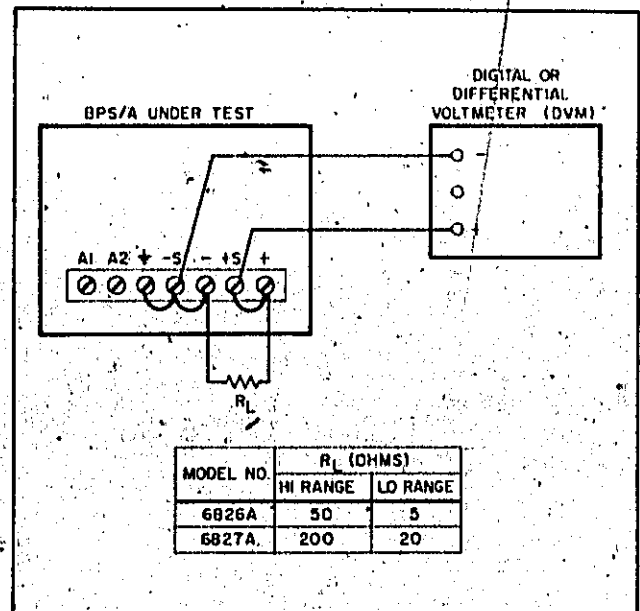

Figure 5-1: Power Supply Mode Test Setup
- Connect appropriate high range load resistor (R_L) across output terminals (see Figure 5-1).
- Turn off BPS/A. Change load resistor R_L to appropriate low range value (see Figure 5-1) and set RANGE switch to X1.
- Connect the test setup shown in Figure 5-1. Use high range (X10) load resistor value.
- Connect the test setup shown in Figure 5-1. Use the high range (X10) load resistance value.